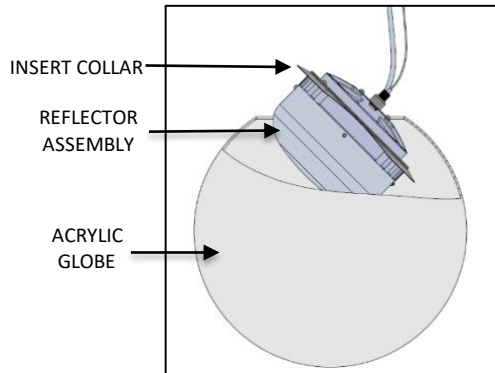

FIG. 35 – ACRYLIC GLOBE
26. Tilt and Slide the REFLECTOR ASSEMBLY through the ACRYLIC GLOBE as shown in FIG. 35.